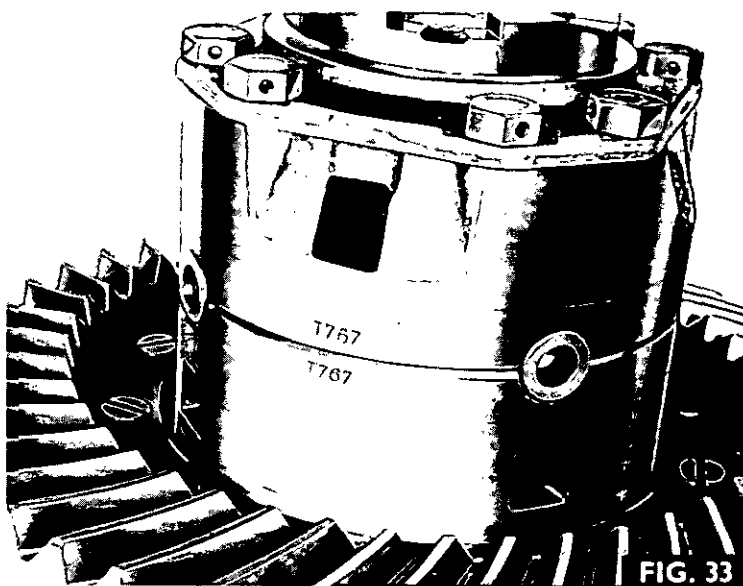

FIG. 33
2. Fig. 33. Refit the R.H. differential case (34) with the markings aligned, as shown, then fit the differential lock coupler (33).